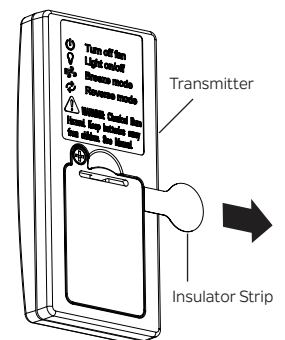

Fig. 5
Step 2. Carefully pull the insulator strip out of the transmitter to activate the preinstalled CR2032 3V button/coin cell battery. Discard the insulator strip. (Fig. 5)